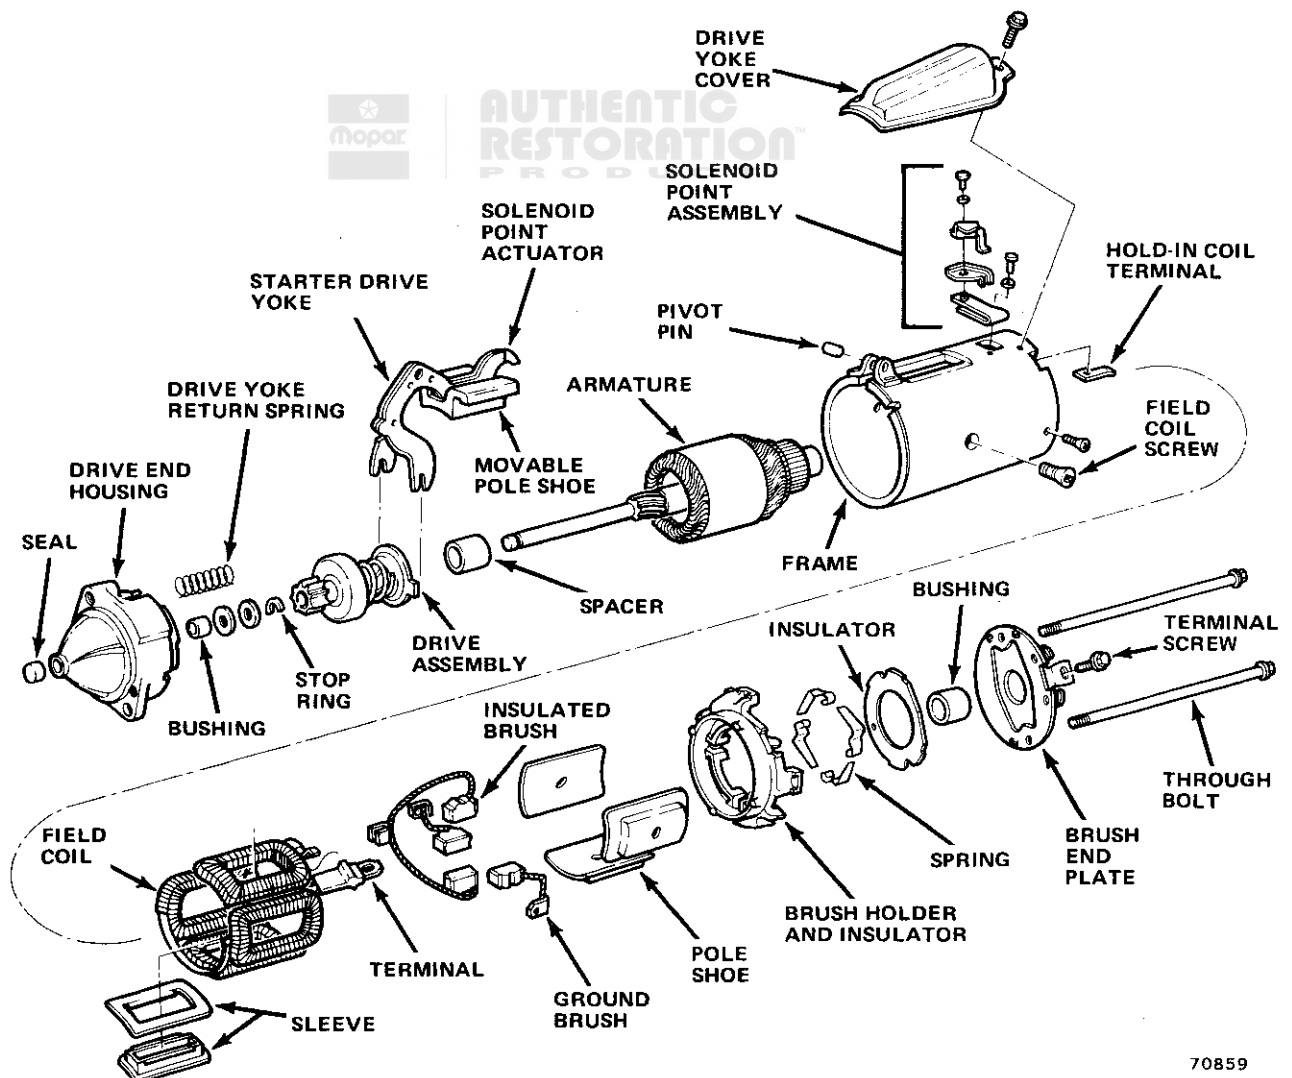

Fig. 1F-14 Parts Identification
(7) Inspect armature shaft and bushings for scoring and excessive wear.
(8) Inspect drive assembly pinion gear for damage. An engine that has repeated starter motor pinion failures should be inspected for:
- Proper ring gear location, shown in figure 1F-15. Inspect for missing or improper parts or misaligned bellhousing.